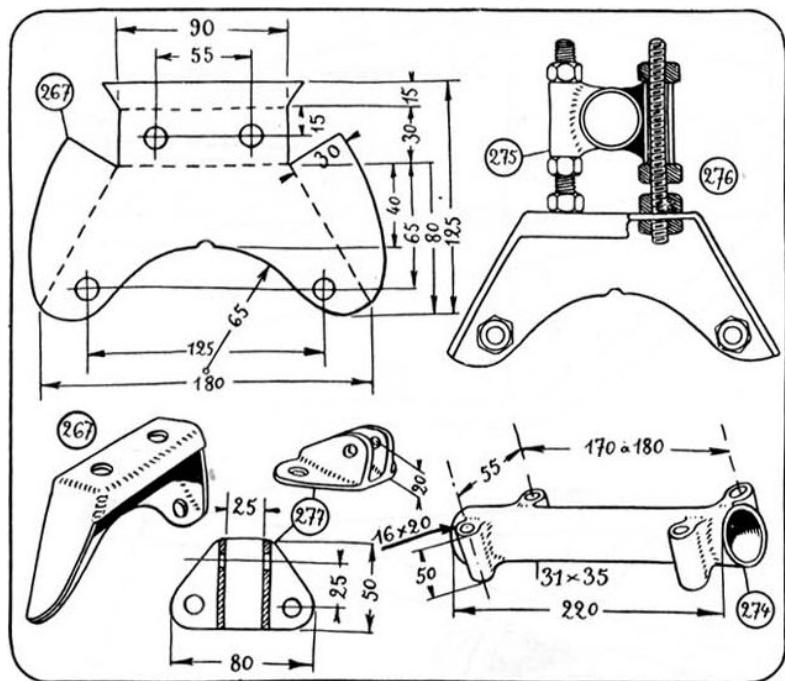

Figure 5.7: Engine mount fittings
The crankcase mounting flanges will be tightened by bolts (10mm threaded rods in the case of the 540cc Aubier and Dunne, which we will take here as an example) between the flanges (267) made of 2mm sheet metal (*figures 5.7, 5.8*). Ensure that the ears (268) are parallel.